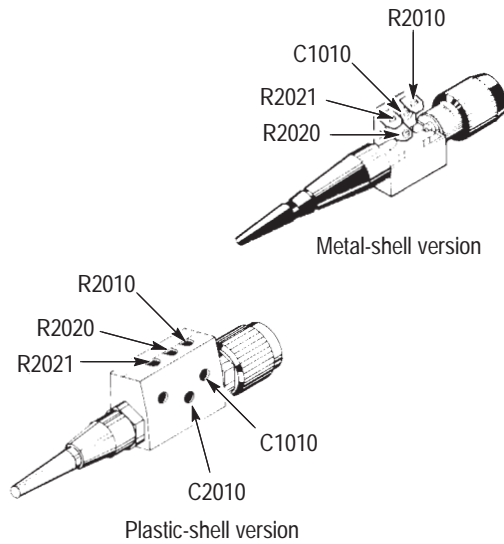

Figure 8: High-frequency compensation adjustment locations
12. Adjust R2021 for the best overall waveform flat response. See Figure 8 for the location of all adjustments.